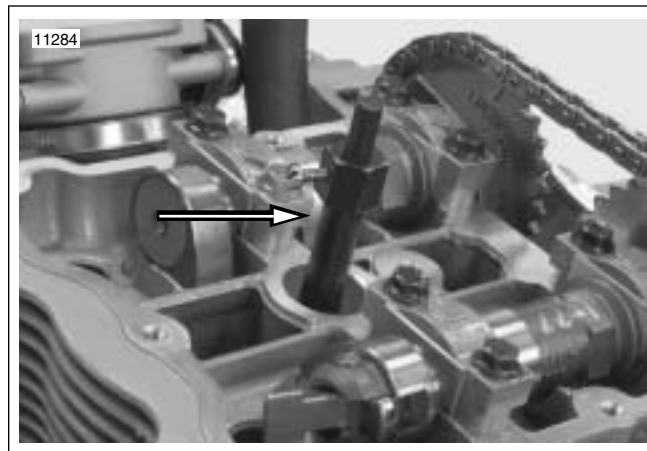

Figure 1-78. Top Dead Center Positioning Tool (HD-45653)
- See Figure 1-78. Install TDC POSITIONING TOOL (HD-45653) in front spark plug hole.